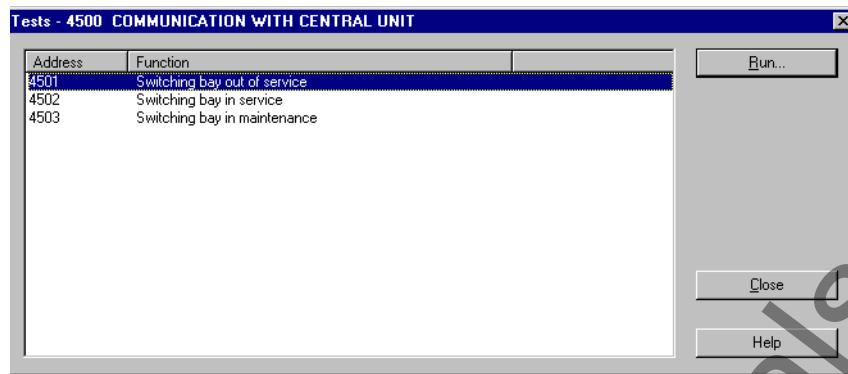

Figure 6-31 Window Test - 4500 COMMUNICATION WITH CENTRAL UNIT
- ❑ Click the entry **COMMUNICATION WITH CENTRAL UNIT** and then click **Run....**. The window "Test - 4500 COMMUNICATION WITH CENTRAL UNIT" opens (Figure 6-31, page 246).
- ❑ Click the entry **COMMUNICATION WITH CENTRAL UNIT** and then click **Run....** The window Test - 4500 COMMUNICATION WITH CENTRAL UNIT opens (Figure 6-31, page 246).